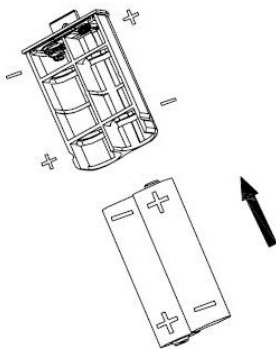

Figure 3
3. Insert 2xAA rechargeable battery in the battery compartment. (Figure 3) Push the battery compartment into the rain collector unit.